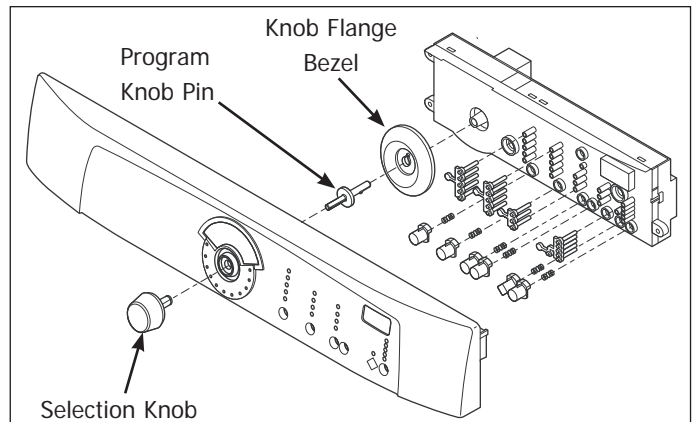

Figure 4-16. Gallery Series
5. The temperature selection knob is removed by lifting the program knob pin and knob flange bezel from the inside of the console panel. (See Figure 4-16)